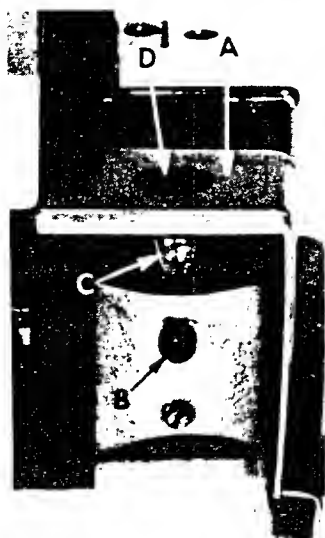

Fig. 17
**CAUTION:** When removing the cloth plate (A, Fig. 17) loosen the cloth plate stud locking screw (B) and lift up cloth plate with the cloth plate stud (C) and cloth plate screw (D), assembled.